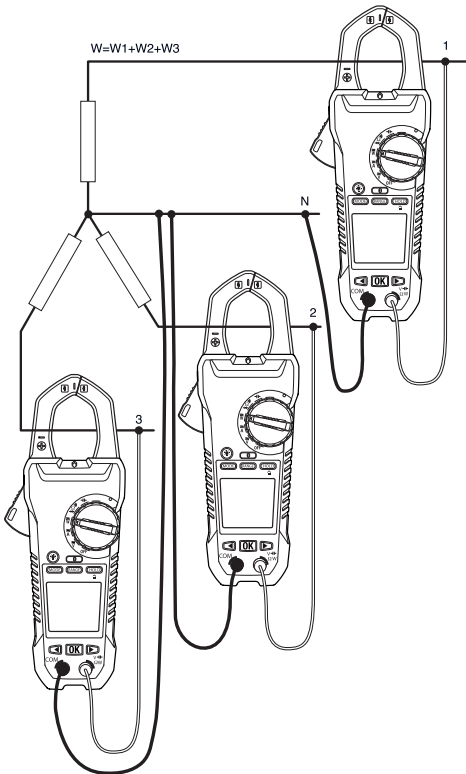

**Figure 5.4** Three-phase three-wire measurements
The power of a three-phase three-wire wye (star) configuration is measured in two steps, in accordance with Figure 5.4. The total power is the sum of the two measurements:  $W = W_1 + W_2$ .
3. Take two measurements of the active power, in accordance with Figure 5.4.